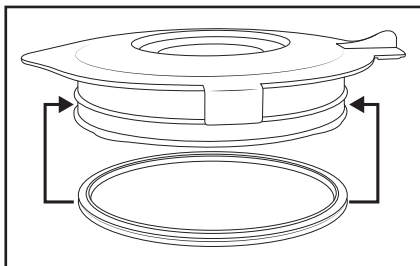

Fig. 3
- To prevent injuring yourself on the cutting blades ④, clean the blender ③ only with a long-handled washing-up brush.
- Clean the measuring cap ① and the lid ② in a mild soap solution. You can remove the rubber seal ⑨ to clean the blender lid by hand. Make sure that the rubber seal ⑨ is correctly reattached before you use the lid ② again (Fig. 3).